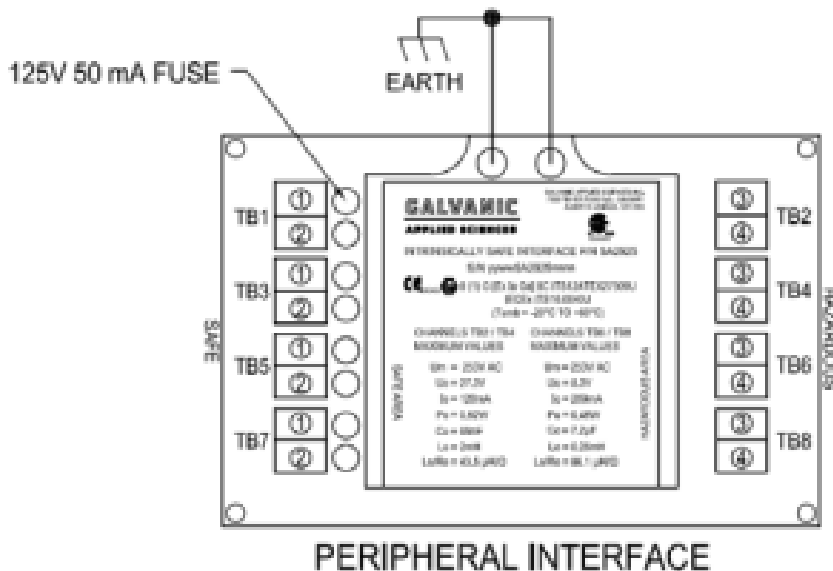

Figure 3: Intrinsically Safe (IS) Barrier
The intrinsically safe (IS) barrier is mounted in the top left corner of the control enclosure of AccuLase-GPA™ D1 control enclosure. The intrinsically safe barrier connections are shown in Figure 3.